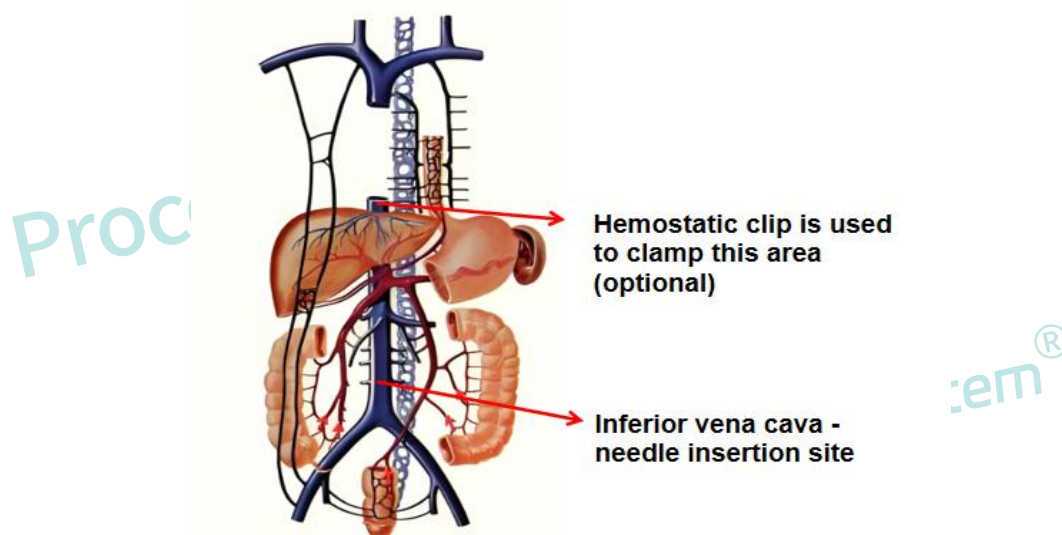
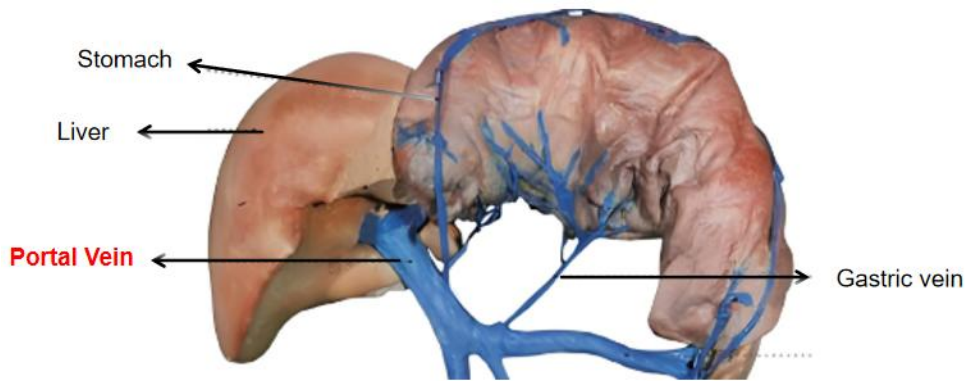
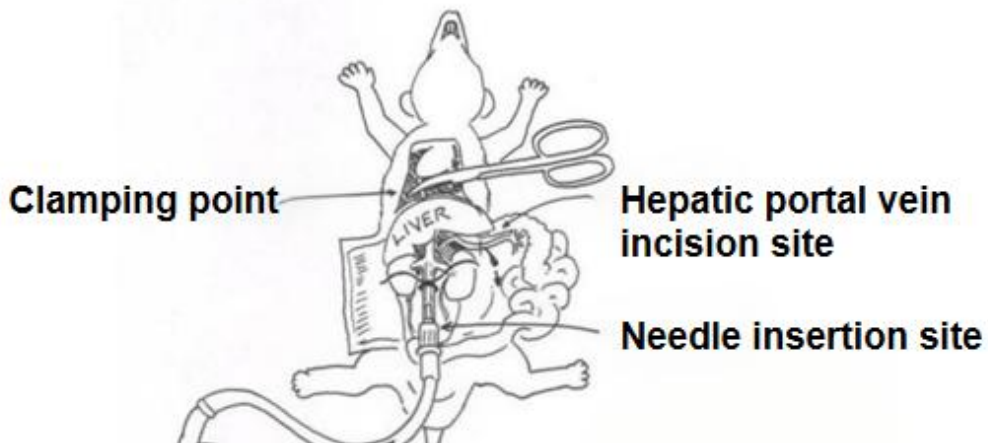

Figure 1. Portal vein system and perfusion needle site
Figure 2. Schematic diagram of hepatic portal vein anatomy
Figure 3. Overview diagram of perfusion process
**Note: (Optional Operation) After incising the abdominal diaphragm, proceed to incise the thoracic diaphragm along the upper edge of the liver. Find the inferior vena cava above the liver and clamp the vein at this site with a hemostatic clip (Figure 1). This step allows the subsequent digestive solution to fully flow through the liver tissue and exit through the hepatic portal vein, improving digestion efficiency. If it is not possible to accurately locate the inferior vena cava above the liver and promptly complete the subsequent steps, please ignore this step.**
① **Peristaltic Pump Perfusion**
- a. Lift up the outer lobe of the mouse liver using Curved Forceps 1 and push the intestinal tissue to the right, exposing the inferior vena cava and hepatic portal vein of the mouse (a pipette tip can be placed under the mouse to fully expose the inferior vena cava). Take a perfusion needle (exhaust all air) and connect the inlet end of it to a centrifuge tube or bottle containing Pre-perfusion Solution For Mouse Hepatic Parenchymal Cells. The needle should be parallel to the inferior vena cava, with the oblique plane of the needle pointing upwards. Insert it into the inferior vena cava (the injection position is shown in Figure 1), and insert the needle tip above the bifurcation of the blood vessel. Fix the perfusion needle and use other auxiliary materials (such as syringe needles) to keep the needle still and avoid puncturing the blood vessel. Gently pull out the needle core, then the blood in the blood vessel can be seen to flow out with the needle core. At this time, the outer tube is left in the blood vessel for perfusion.
- b. Turn on the peristaltic pump and slowly infuse the Pre-perfusion Solution For Mouse Hepatic Parenchymal Cells until the liver becomes fully distended. At this time, use Ophthalmic Scissors 2 to cut open the hepatic portal vein for drainage (marked in Figure 2), maintaining a perfusion rate at 5 mL/min until all blood in the liver are completely drained and the liver tissue turns waxy yellow, the perfusion volume is about 20 mL (the perfusion process is shown in Figure 3).
② **Manual Perfusion**
- e. Lift up the outer lobe of the mouse liver using Curved Forceps 1 and push the intestinal tissue to the right, exposing the inferior vena cava and hepatic portal vein of the mouse (a pipette tip can be placed under the mouse to fully expose the inferior vena cava). Take the perfusion needle (exhaust all air) which has been connected to the syringe containing Pre-perfusion Solution For Mouse Hepatic Parenchymal Cells. The needle should be parallel to the inferior vena cava, with the oblique plane of the needle pointing upwards. Insert it into the inferior vena cava (the injection position is shown in Figure 1), and insert the needle tip above the bifurcation of the blood vessel. Fix the perfusion needle and use other auxiliary materials (such as syringe needles) to keep the needle still and avoid puncturing the blood vessel. Gently pull out the needle core, then the blood in the blood vessel can be seen to flow out with the needle core. At this time, the outer tube is left in the blood vessel for perfusion.
- f. Gently push the syringe to allow the Pre-perfusion Solution into the mouse liver tissue. Use a timer to start the timing, control the infusion rate, and maintain the flow rate at around 5 mL/min. When the liver is full, use Ophthalmic Scissors 2 to cut open the hepatic portal vein for drainage (marked in Figure 2). Keep perfusion until the blood in the liver are completely drained and the liver tissue turns waxy yellow, the whole perfusion time is about 4-5 minutes (the perfusion process is shown in Figure 3).